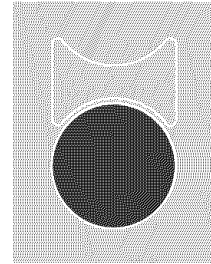
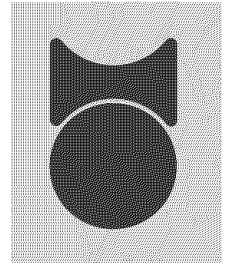

Figure 1
Figure 2
2. Push in and turn the control knob clockwise to heat the portion of the Bridge element for normal shaped cookware (See Figure 1) or counterclockwise for larger or rectangular shaped cookware (See Figure 2).